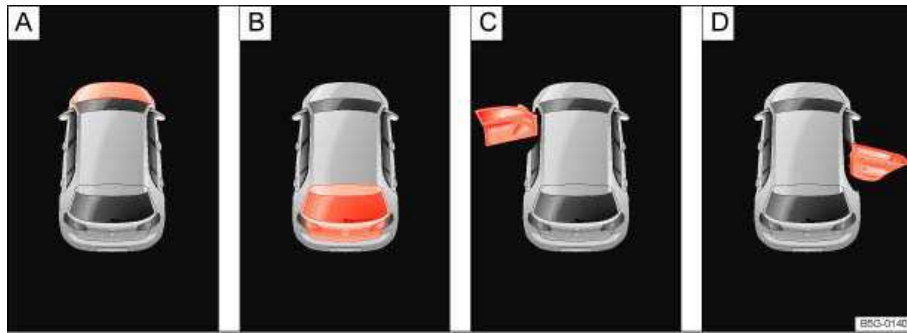

Fig. 10 In the instrument cluster display: A: Open electric motor hood, B: Open rear hatch, C: Open front driver side door, D: Open rear passenger side door.
- Open doors, electric motor hood, or rear hatch ⇒ fig. 10
Key to ⇒ fig. 10	See